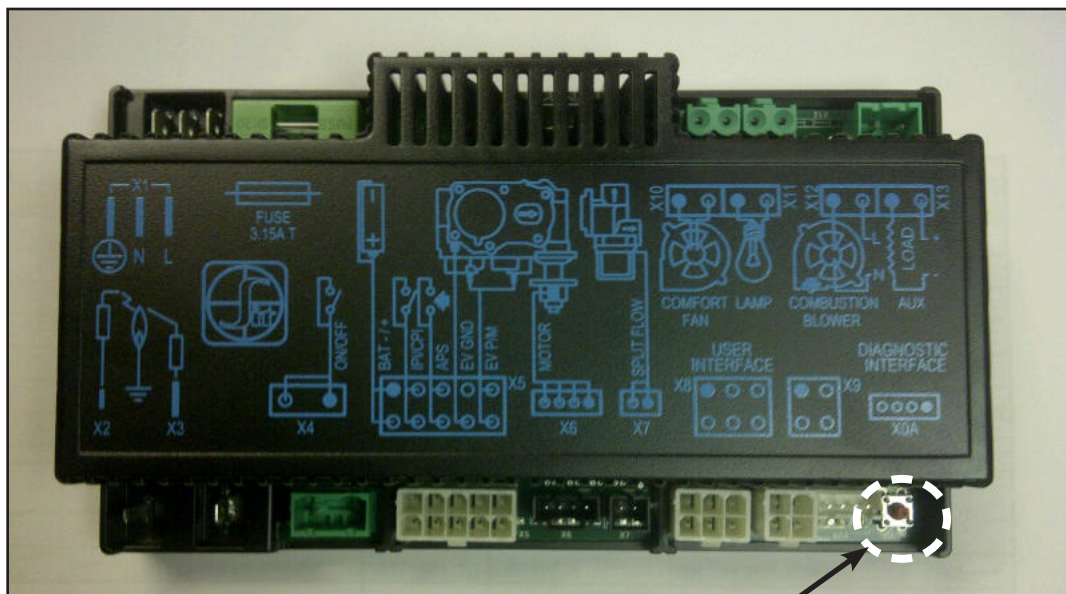

Figure 6: Integrated Fireplace Controller
The Proflame 2 IFC (Figure 6) connects directly to the gas valve, split flow valve, stepper motor, pilot and convection fan with a wiring harness. The IFC is mainly powered by 120 VAC but can also run off a battery backup four (4) AA type batteries for shorter periods of time. The IFC accepts commands via radio frequency from the Transmitter to operate the appliance in accordance with the particular Proflame 2 system configuration. The IFC has a red reset button at the front right corner that is used to synchronize the Transmitter when using the for the first time, or after the batteries have been replaced.
Install the four (4) AA batteries into the IFC battery holder. Note the polarity of the battery and insert into the battery bay as indicated on the body of the battery holder. Press the reset button on the IFC marked "SW1" (see Figure 6).